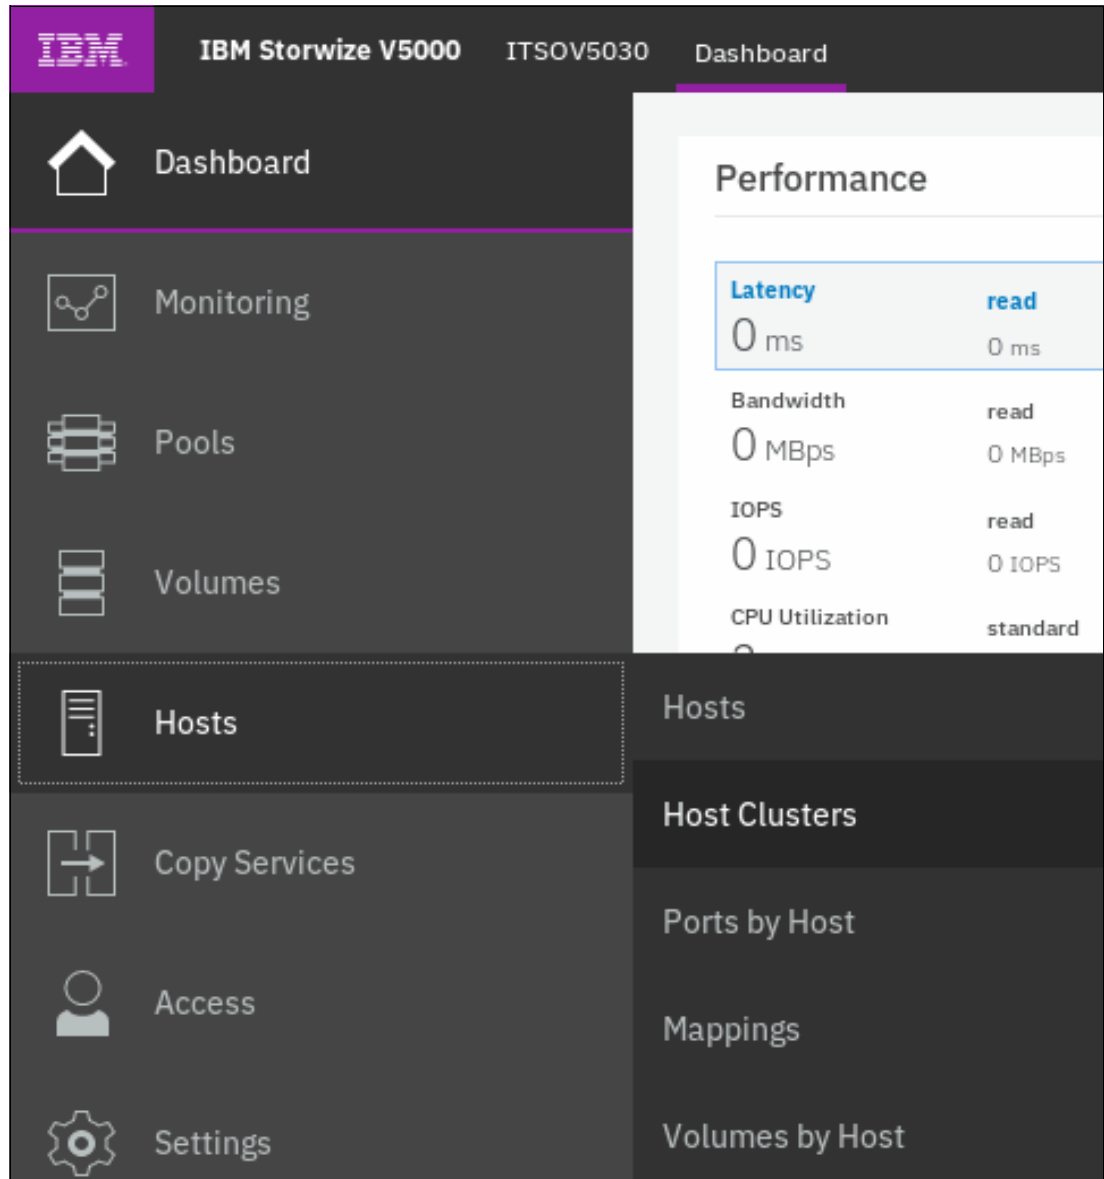

Figure 5-70 Host Clusters option
1. Click **Hosts** → **Hosts** from the main window, as shown in Figure 5-70.